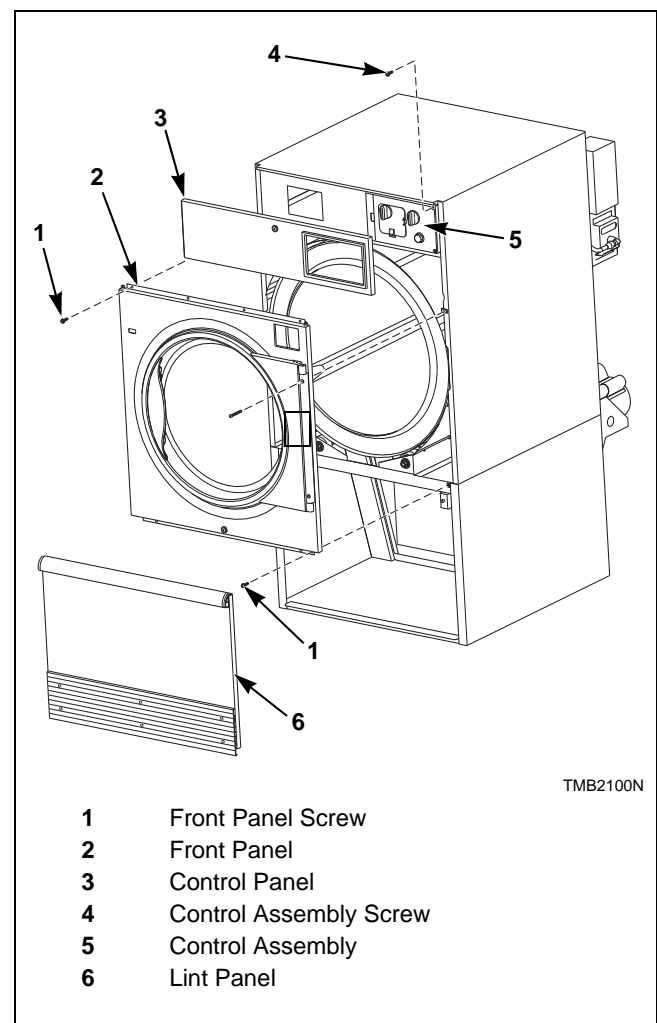
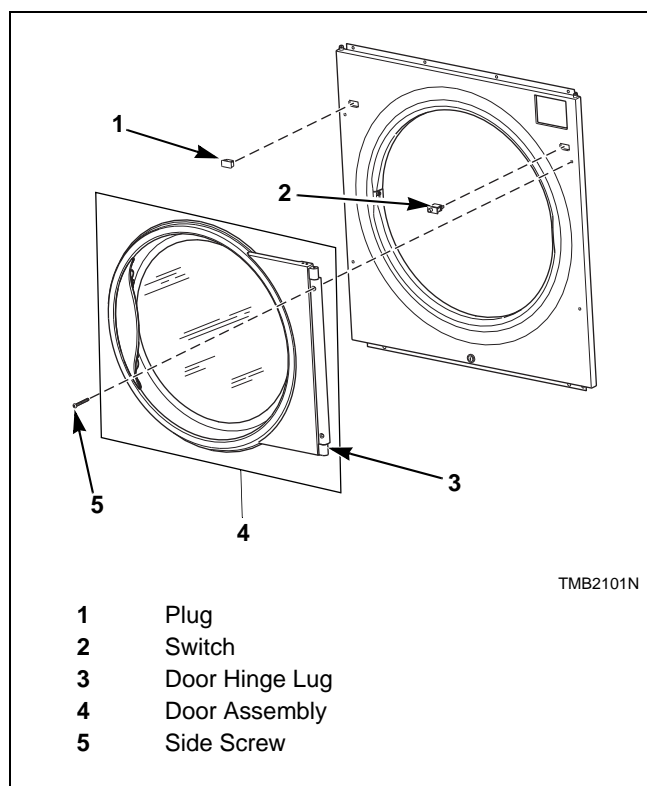

Figure 8
Figure 9
2. Unlock and remove control panel. Remove two control assembly mounting screws from right side. Swing open control. Refer to *Figure 8*.
4. Remove four front panel screws. Refer to *Figure 8*. Keep door hinge cams in place on door hinge lug. Pull lug and door assembly off as one piece. Refer to *Figure 9*.
5. Remove remaining front panel screws. Refer to *Figure 8*. Disconnect door switch harness from switch. Take off front panel. Refer to *Figure 9*.
6. Exchange switch and plug locations. Depress tabs with an adjustable pliers to remove plug and switch from front panel. Reinstall switch, orienting button toward center of machine. Reinstall plug in switch's previous location. Refer to *Figure 9*.